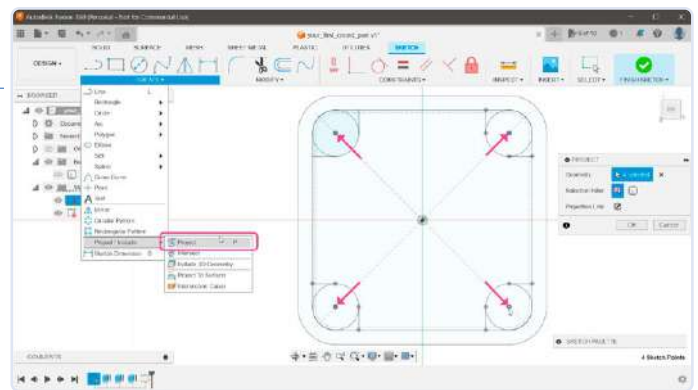

Figure 14: Replicating the operation for the other three corners.
14) To copy those points on our new sketch, select *CREATE* → *Project/Include* → *Project* (Figure 14). Click on all four points and confirm using the OK button. If you rotate the 3D view, those new points are now hovering over the original sketch.